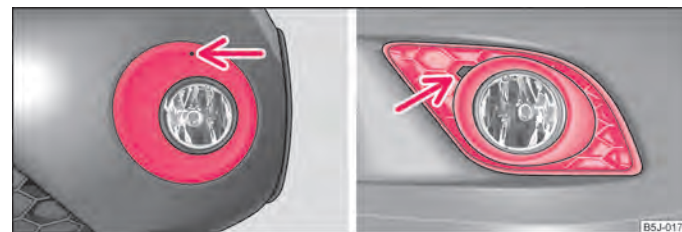

Fig. 162 Front bumper: Fabia Scout/Fabia RS
- Guide the wire clamp from the vehicle tool kit into the opening above the fog light ⇒ fig. 162 - left and remove the cover.
- Guide one finger into the opening next to the fog light ⇒ fig. 162 - right and remove the cover.